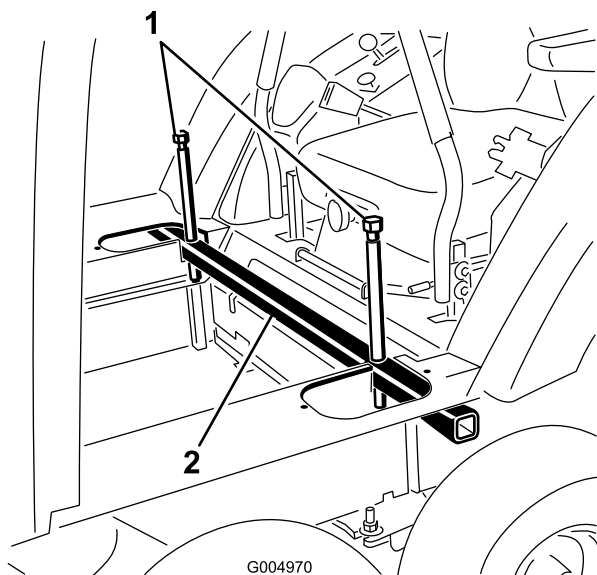

Figure 82
22. Install the cab jack tube into the cutouts in the cab floor (Figure 82). Tighten the jacking bolts until the tapered ends go through the hole in the floor plate and just contact the frame.